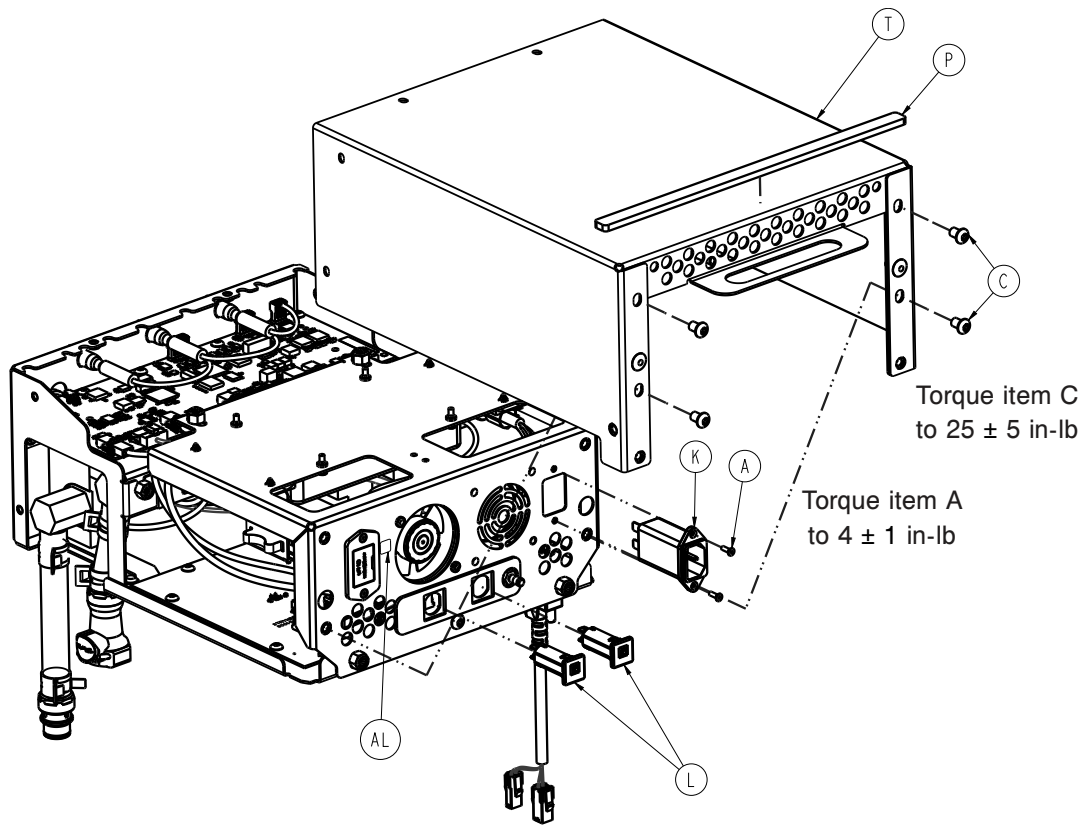

Figure 31 – Back of the control assembly
7. Using a T27 Torx driver, remove the four screws (C) from the back cover of the control assembly. Pull the cover to the back of the product. Set the cover aside (Figure 31). Save the screws.